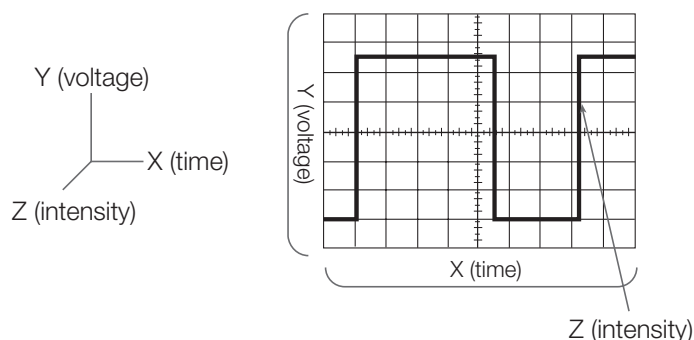
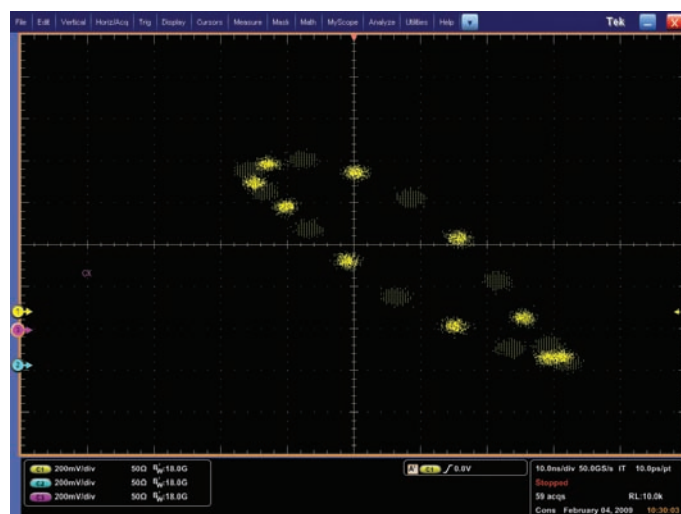

Figure 2. X, Y, and Z components of a displayed waveform.
Figure 3. Two offset clock patterns with Z axis intensity grading.
The oscilloscope is basically a graph-displaying device – it draws a graph of an electrical signal. In most applications, the graph shows how signals change over time: the vertical (Y) axis represents voltage and the horizontal (X) axis represents time. The intensity or brightness of the display is sometimes called the Z axis, as shown in Figure 2. In DPO oscilloscopes, the Z axis can be represented by color grading of the display, as seen in Figure 3.